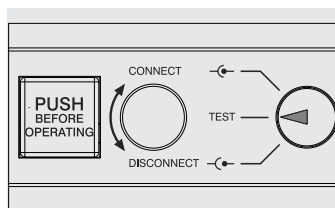

Figure 53
- circuit-breaker in test position (see Figure 53)